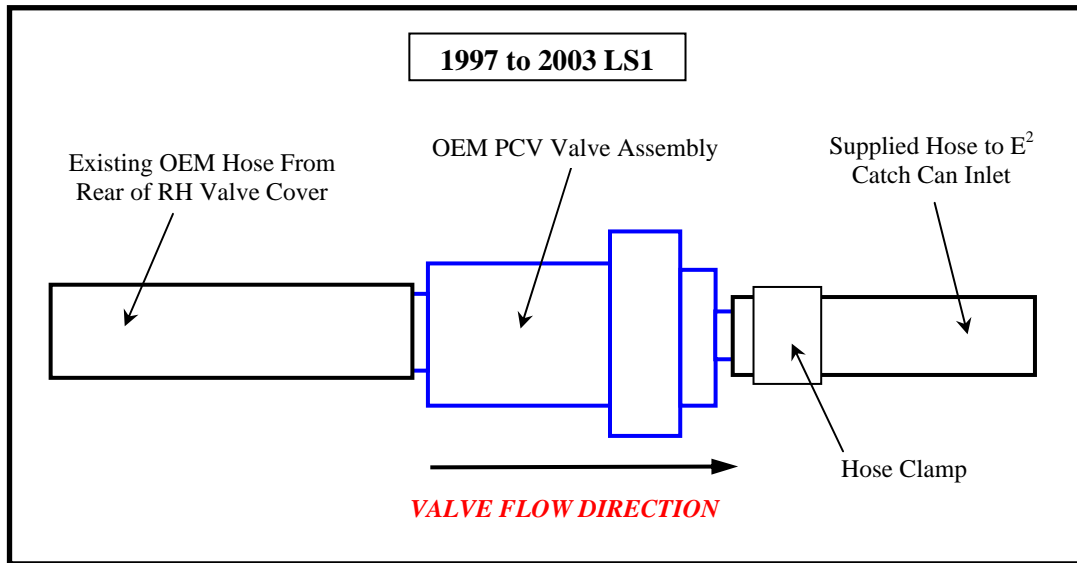

Figure 2 – LS1 PCV Valve Configuration
- **(Reference Figure 2)** Slide a supplied hose clamp over each end of the hoses cut above. Connect the hose from the OEM PCV valve to the Catch Can inlet fitting (top location). Connect the other hose from the Catch Can outlet fitting (side location) to the intake manifold hose fitting. Reposition hose clamps to ensure a good seal.